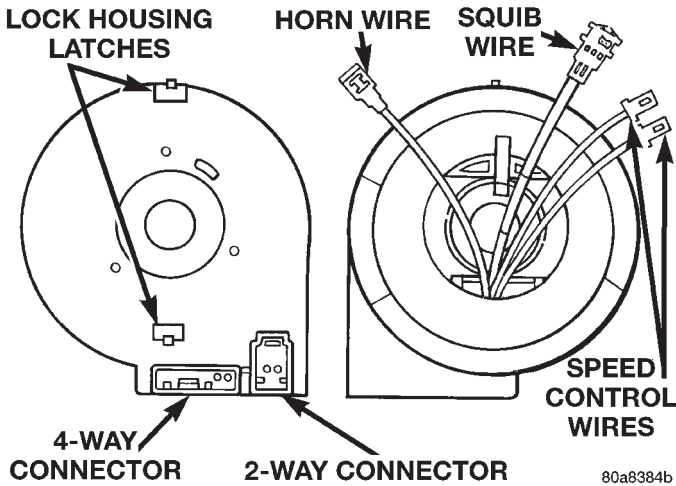

Fig. 5 Clockspring
- (2) Remove the two steering column lower cover attaching screws. Remove upper cover.
- (3) Remove the Driver Airbag Module attaching T-30 Torx bolts from back side of the steering wheel. Lift the module and disconnect the wire by:
- (4) Remove the speed control switch screws from back of the steering wheel. Pull the switch pods out and disconnect the wires.
- (5) Disconnect the horn wire from the steering wheel and remove the speed control wires from the wire guides.
- (6) Remove the steering wheel. Carefully feed all wires through the steering wheel armature to avoid damaging wires. When replacing a deployed Driver Airbag Module, a new clockspring must be installed (Fig. 5).
- (7) Remove the nut attaching steering wheel to the steering column.
- (8) Disconnect the natural 3-way and the yellow 2-way connectors from back side of the Driver Airbag Module.
- (9) Remove the steering column shrouds by unfastening the two fasteners.
- (1) Adjust the steering wheel so that the tires are straight ahead position.
- (2) Center the clockspring by ensuring the yellow indicator visually seen through the centering window. Refer to Clockspring Centering Procedure.
- (3) Align the top locking tab with the slot on the lock housing. Gently push into place.
- (4) Install the multi-function switch and tighten to 1.5 to 2.5 N·m (14 to 22 in. lbs.) torque.
- (5) Install the steering column shrouds and tighten to 1.7 to 2.3 N·m (15 to 20 in. lbs.) torque.
- (6) Carefully route the wires through the hole in the steering wheel armature. Install steering wheel and Tighten to 61 N·m (45 ft. lbs.) torque.
- (7) Route the speed control wires under the horn mechanism and through the speed control switch pockets. Connect the speed control wires to switches and install switches. Tighten screws to 0.7 to 2.7 N·m (6 to 24 in. lbs.) torque.
- (8) Connect horn lead to the airbag module mounting bracket.
- (9) Connect the yellow airbag lead to the Driver Airbag Module and push secondary latch into place (Fig. 5). Ensure the wires do not get pinched during installation.
- (10) Install the airbag module bolts and tighten to 9 to 10 N·m (80 to 90 in. lbs.) torque. Refer to Diagnosis and Testing for Airbag System Test procedures before connecting the battery negative remote cable.